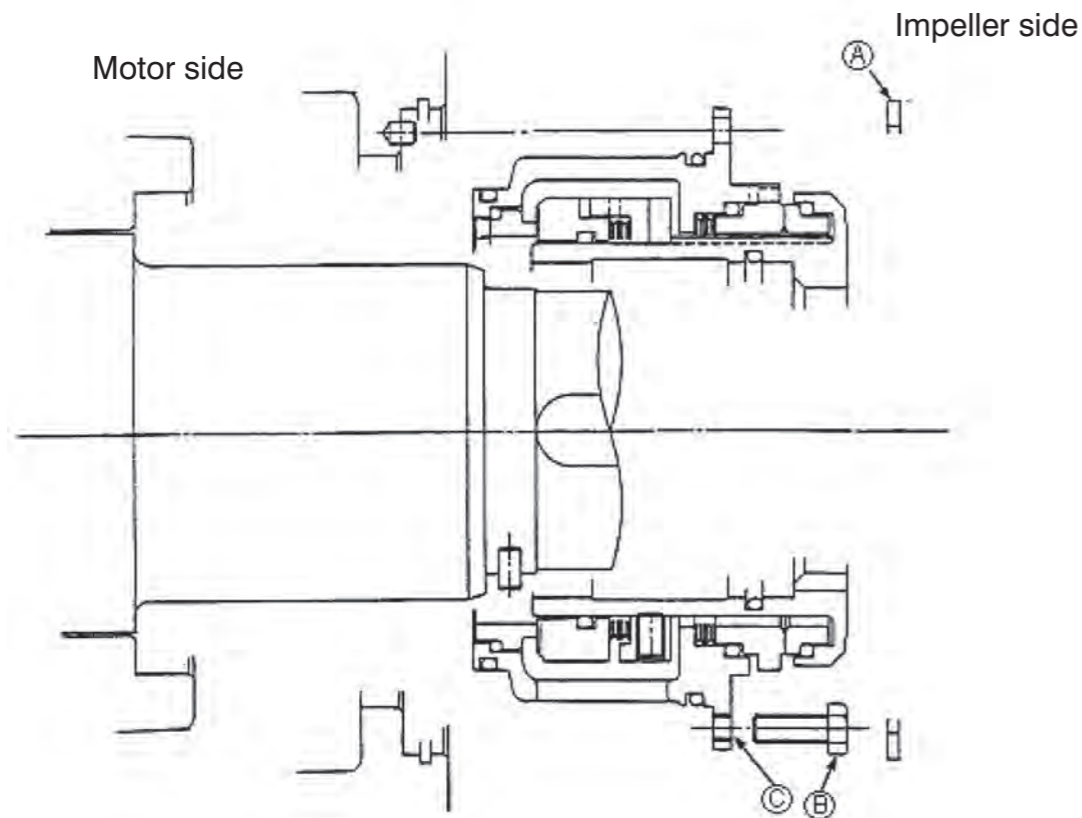

Fig. 24
(3) Mechanical seal replacement (Refer to Fig. 24)